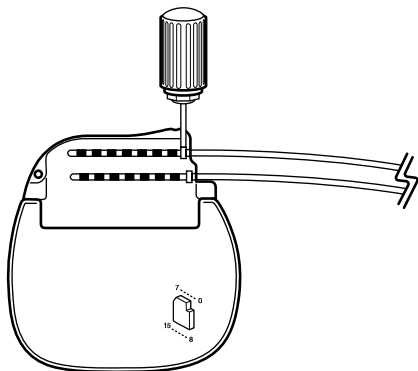

Figure 2. Tightening the setscrews in the self-sealing grommet.
4. For each extension, lead, or plug, fully insert the torque wrench (packaged with the rechargeable neurostimulation system) into each self-sealing grommet of the connector block and tighten each setscrew (Figure 2).